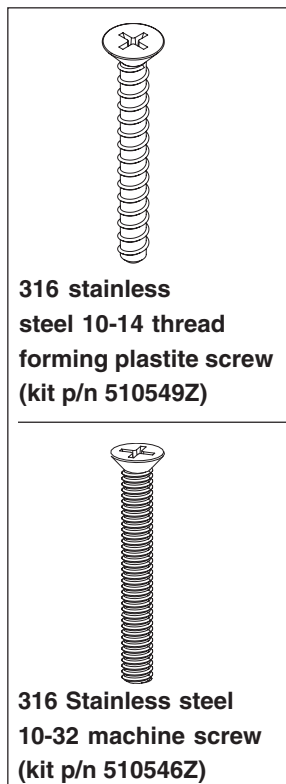

Figure 2
**⚠ WARNING** ONLY USE THE 316 STAINLESS STEEL 10-14 THREAD FORMING SCREWS (SEE FIG. 2) PROVIDED. SUBSTITUTE SCREWS SUCH AS MASONRY SCREWS, SHEET ROCK SCREWS OR OTHER TYPES OF SCREWS SHOULD NEVER BE USED, WILL CAUSE THE GRATE TO COME LOOSE AND COULD RESULT IN LIMB OR BODY ENTRAPMENT, HAIR ENTANGLEMENT OR EVISCERATION/DISEMBOWELMENT.